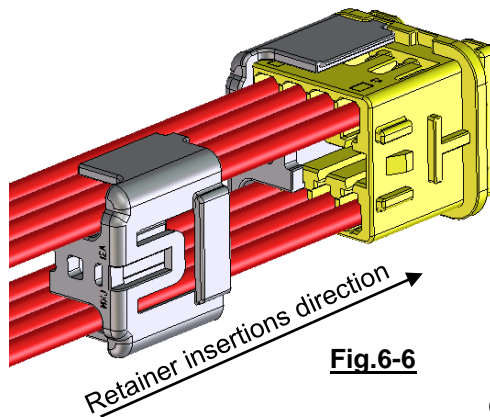

Fig.6-6
- ① Hold housing by pinching right and left side, and retainer by pinching up and down side.
- ② Please insert retainer like Fig.6-6. As shown in Fig.6-7
- ③ The lock of retainer follows the guide lib which is shaped on the housing, Please insert retainer into housing slowly and straight until click gets held up completely.